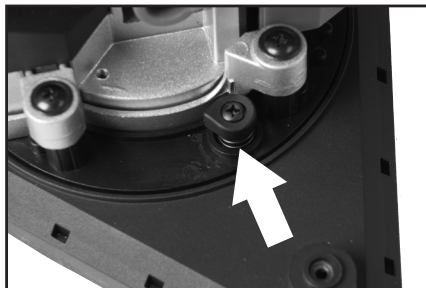

Fig. 13
- Push down on the Locking Button (**Fig 13**) and turn the button to the unlocked position.